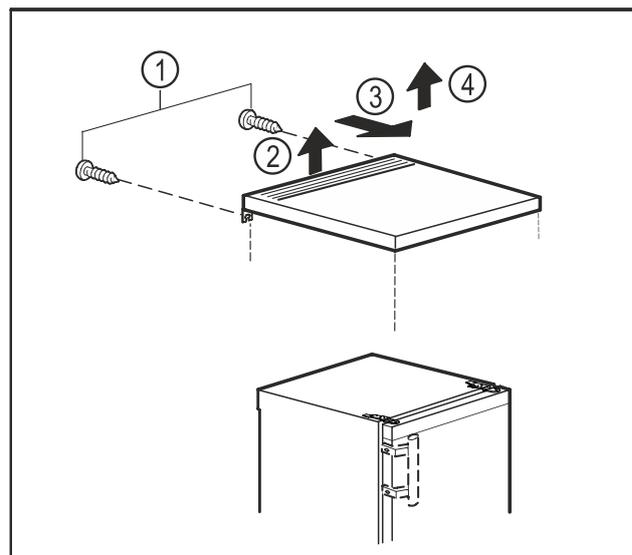

Fig. 10
- ▶ Remove the screws on the rear side. Fig. 10 (1)
- ▶ Lift the tabletop at the back. Fig. 10 (2)
- ▶ Slide the tabletop forward. Fig. 10 (3)
- ▶ Remove the tabletop upwards. Fig. 10 (4)